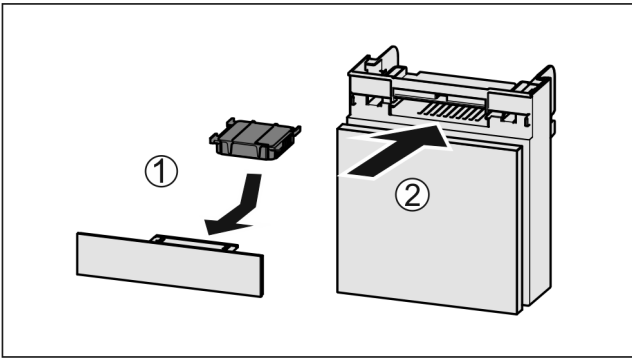

Fig. 58
- Insert the carbon filter as shown in the diagram Fig. 58 (1).
- Push the compartment in Fig. 58 (2).